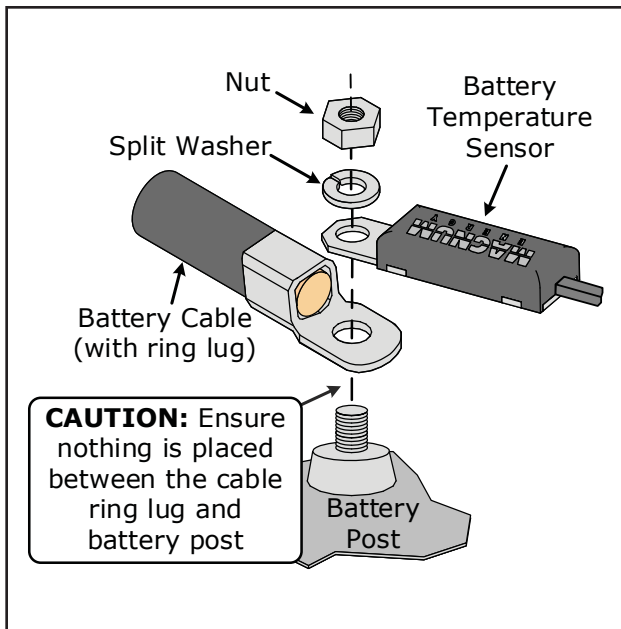

Figure 2-5, Battery Hardware Installation
Refer to Figures 2-5 and 2-6 for the correct way to connect the DC cables and to stack the hardware. Tighten the DC cable connections from 10 to 12 ft lbf (13.6 to 16.3 Nm).
1. Attach the ring terminal end of the Battery Temperature Sensor (BTS) to the negative battery terminal (see Figure 2-5 for proper connection to the battery terminal).
6. Ensure the DC wire connections (on the batteries, inverter, and DC circuit breaker) are flush on the surface of the DC terminals, and the hardware (lock washer and nut) used to hold these connections are stacked correctly (see Figures 2-5 and 2-6). Verify all DC connections are torqued from 10 to 12 ft lbf (13.6 to 16.3 Nm).